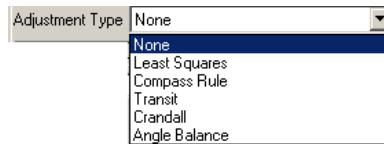
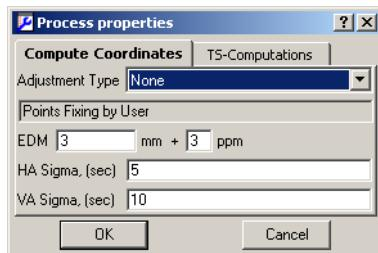

Figure 5-10. Adjustment Type
Figure 5-11. Process Properties – Compute Coordinates
- On the *Process properties* dialog box, select the *Compute Coordinates* tab (Figure 5-11) and choose one of the following Adjustment types (Figure 5-10).
3. Select an azimuth balancing parameter (Figure 5-11 on page 5-11). See “Azimuth Balancing Method” on page 5-15 for details.